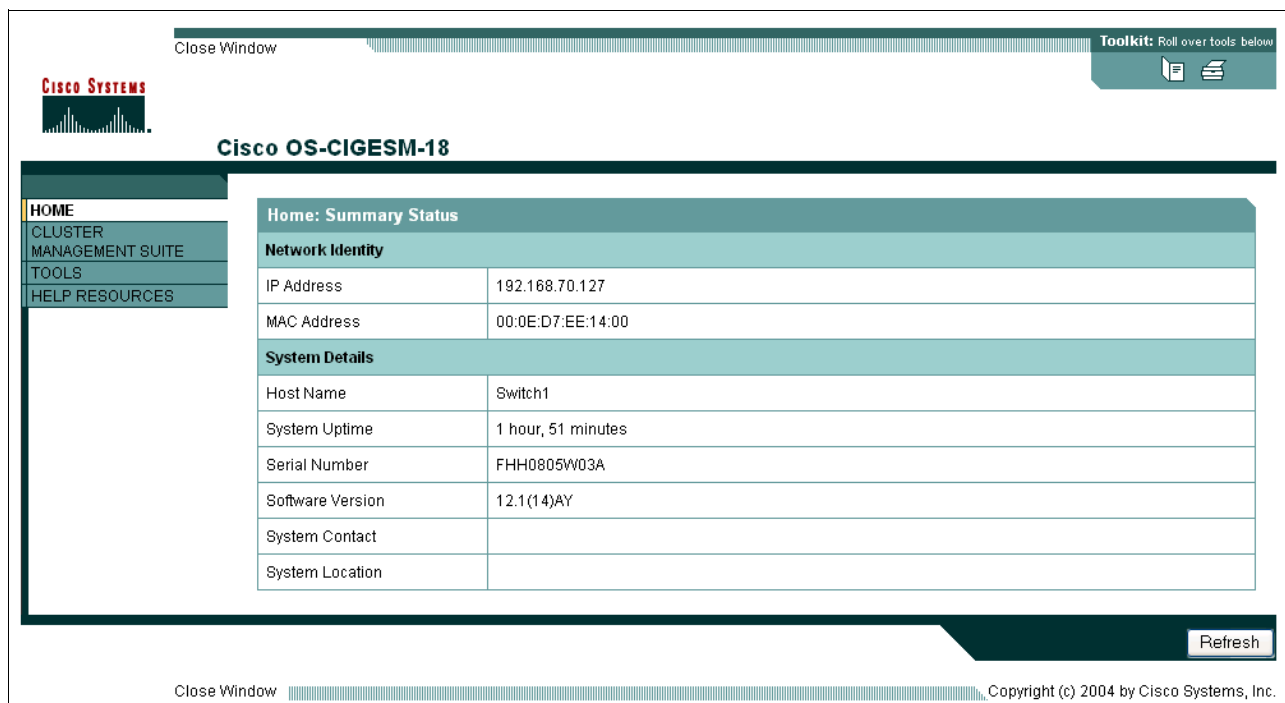

Figure 5-2 Cisco Systems Intelligent Gigabit Ethernet Switch Module Home (12.1(14) IOS)
After you assign an IP address to the switch module, you will be able to open its Web interface, the Cisco Systems Intelligent Gigabit Ethernet Switch Module Home. To open the interface, enter the IP address of your switch in a Web browser, then input the user ID and password of the switch. For 12.1(14) versions of IOS, a window similar to the one shown in Figure 5-2 on page 29 opens.